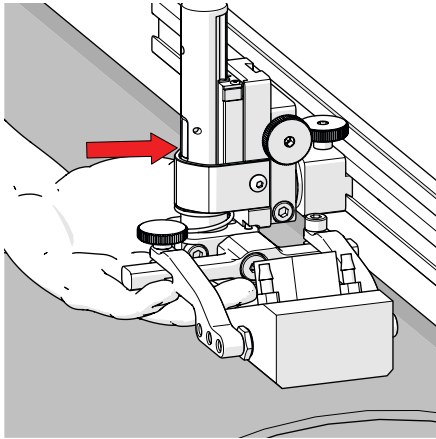
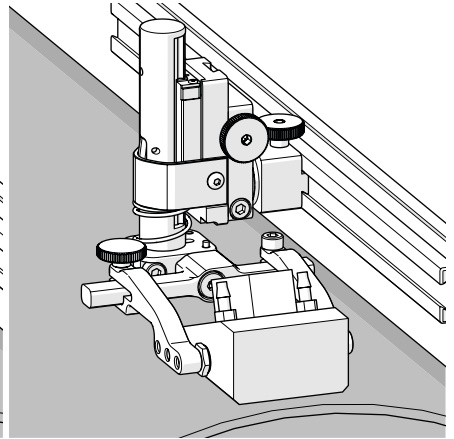

Fig. 60 - Press latch button
Fig. 61 - Lower toward scan surface
4. Lift the yoke slightly and press the latch button (Fig. 60), then slowly lower towards scanning surface to apply spring pressure to the wedge (Fig. 61).